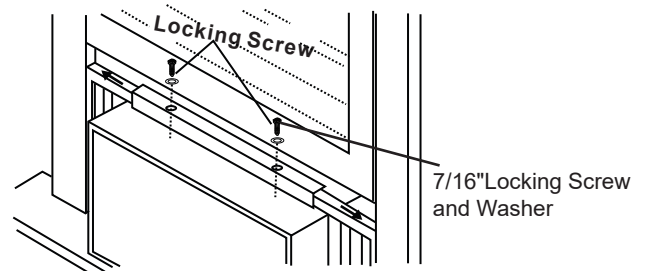

Fig.17
2. Extend panels to fill window opening completely. Tighten locking screws on top (Fig.17).